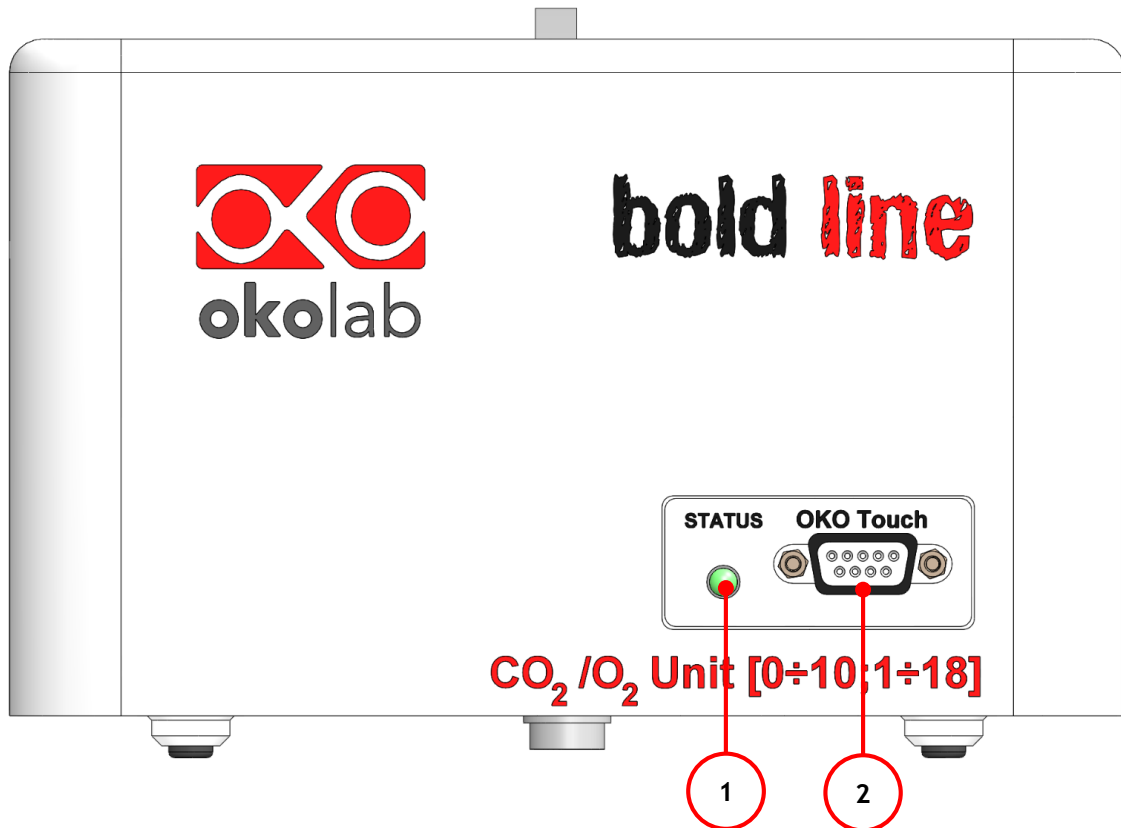
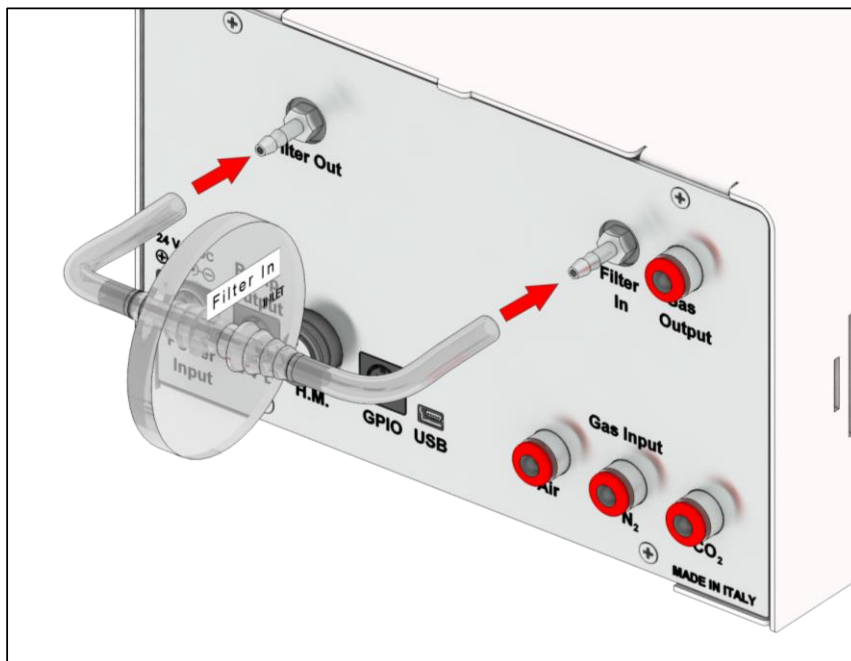

Figure 4. CO2-O2-UNIT-BL [0-10; 1-18] front panel.
Figure 9. How to install TUBE-CB.
Figure 4 illustrates CO2-O2-UNIT-BL [0-10; 1-18] front panel:
2. Install the **TUBE-CB** on the rear panel of CO2-O2-UNIT-BL [0-10; 1-18]. It filters the mixed gas before it enters in contact with CO2-O2-UNIT-BL [0-10; 1-18] gas sensors. Connect the TUBE-CB with the *Filter In* and *Filter Out* connectors on the rear panel of CO2-O2-UNIT-BL [0-10; 1-18] (1, 2 in Figure 4). Make sure the *Filter In* label side of the filter is always connected to Filter In connector on the rear panel of CO2-O2-UNIT-BL [0-10; 1-18] (see Figure 9).
7. To switch CO2-O2-UNIT-BL [0-10; 1-18] on use the power button on OKO-TOUCH. The Status LED (1 in Figure 4) on the front of CO2-O2-UNIT-BL [0-10; 1-18] will turn green.